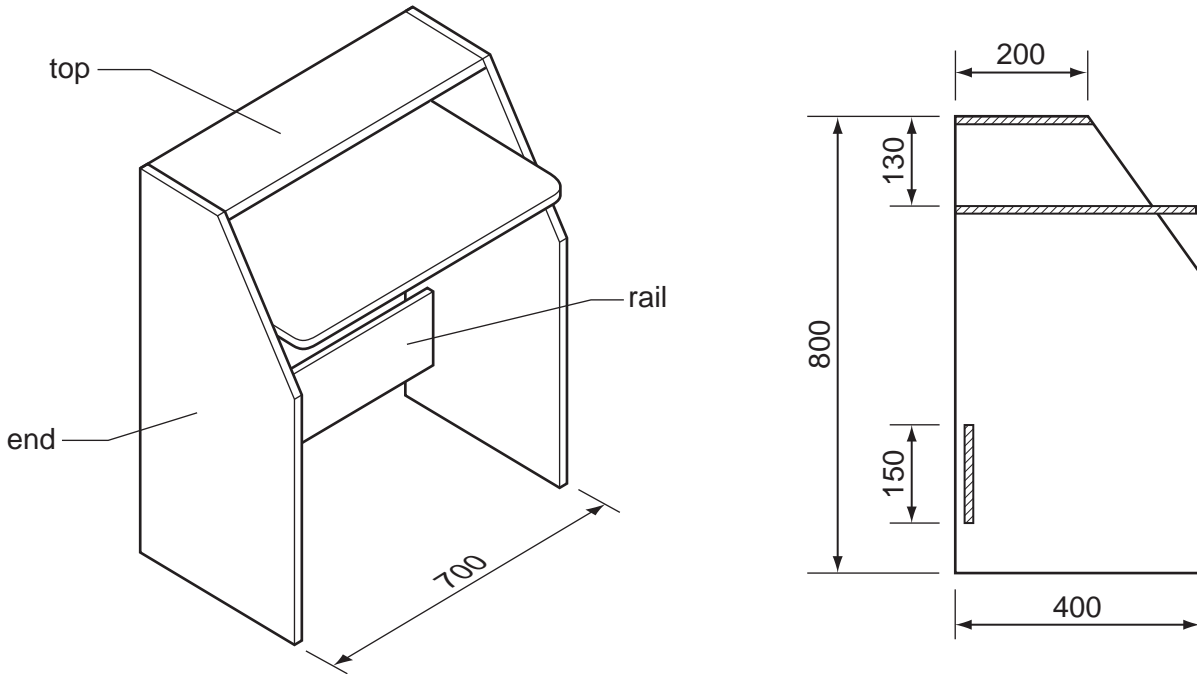

Fig. 4
- 11 Fig. 4 shows views of a basic design for a computer desk made from 18mm thick manufactured board. The computer desk is sold as flat-pack for self-assembly.